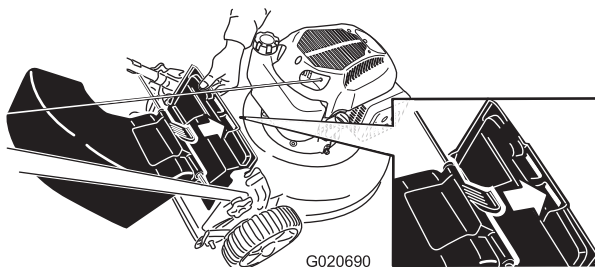

Figure 23
3. Insert the tab on the rear-discharge deflector into the right-hand slot in the rear deflector (Figure 23).